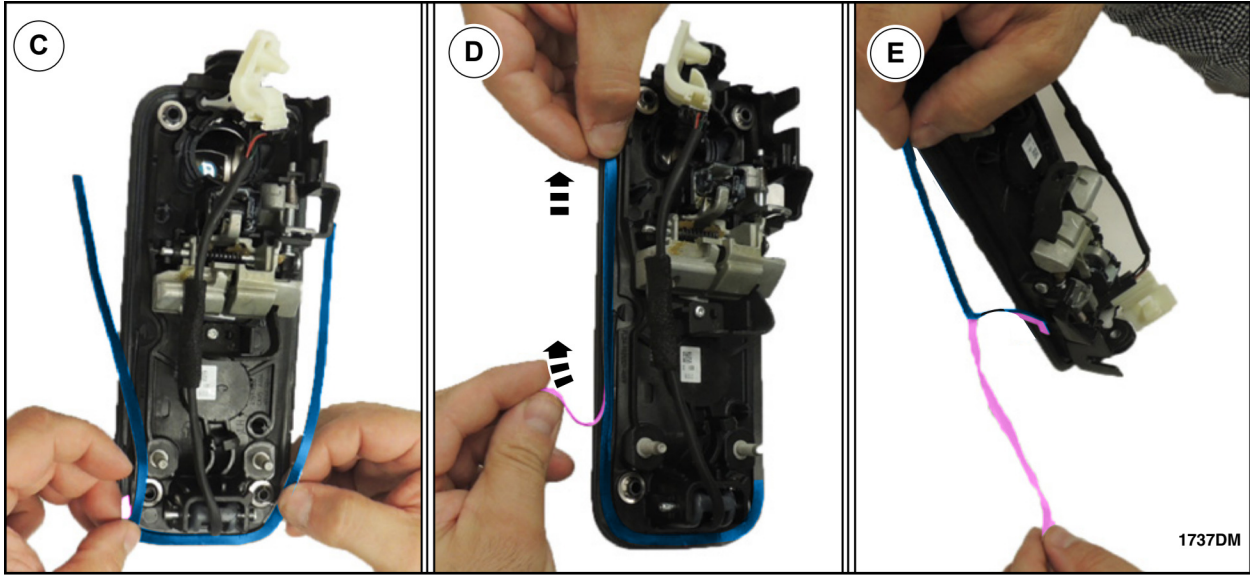

FIGURE 53
- C. Align the marks made on the foam K and exterior door handle and adhere the back center portion to the exterior door handle as shown in Figure 53.
- D. Lay one side of foam K down on the exterior door handle and without stretching the foam pull off the adhesive backing as you adhere foam K to the exterior door handle as shown in Figure 53.
- E. Remove the protective backing from the other side leg of foam K as shown in Figure 53.